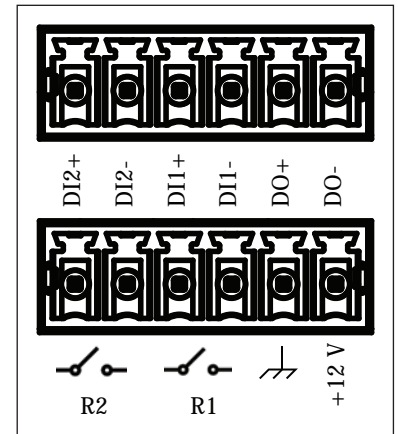

Figure 9: iServer 2 - Deluxe digital I/O and relays terminal block
Use the provided terminal block connectors and the connector diagram in Figure 9 to wire Digital I/O and Relays to the iServer 2.
**Important:** When wiring the included terminal block connectors to access the digital I/O, alarms, or relays, it is recommended that users ground the unit by connecting a wire to the chassis ground of the connectors shown in **Figure 9**.